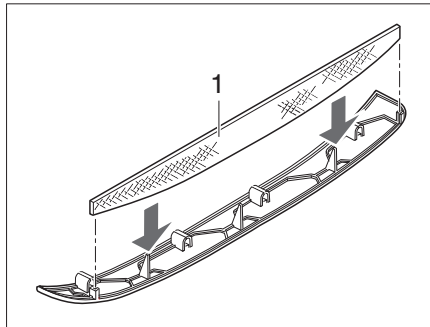
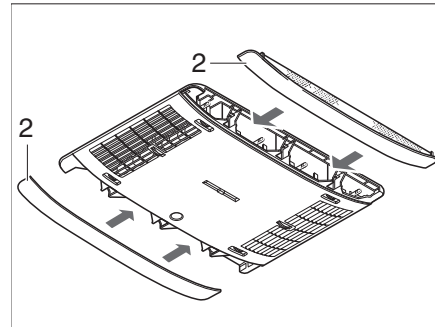

Fig. 362 Lint filter air conditioning unit
Fig. 363 Air conditioning unit panels
Two lint filters are located in the side panels (Fig. 363,2). The lint filters must be cleaned at regular intervals, at least every 6 months however, and replaced if necessary.
- Remove the panels (Fig. 363,2) from the air distribution unit and clean the lint filter (Fig. 362,1) or replace it if necessary.